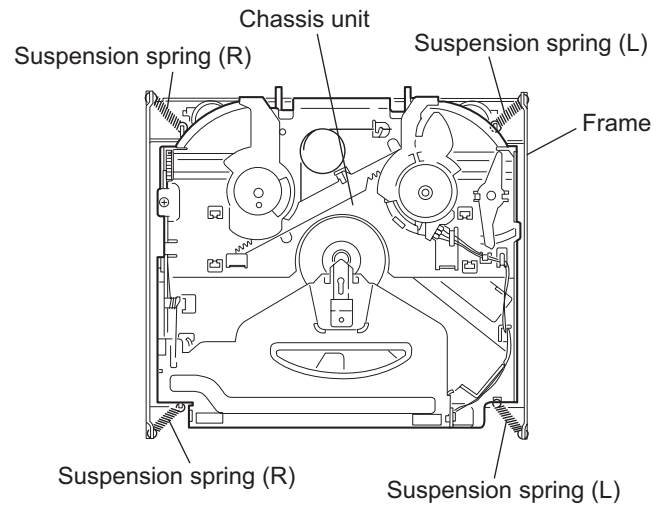

Fig.8
2.2.4 Removing the chassis unit (See Figs.8 and 9)